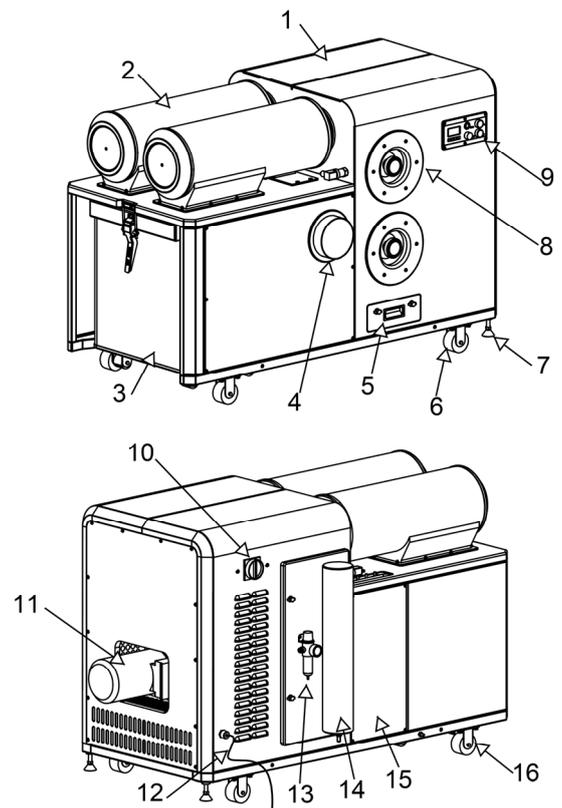

Fig. 1
2.1 Feature Identification (Fig. 1)